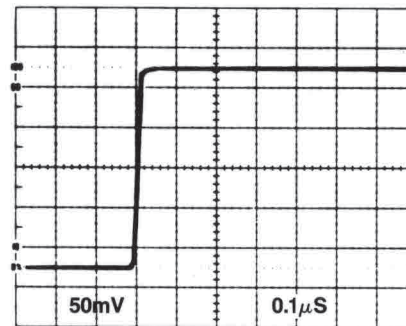
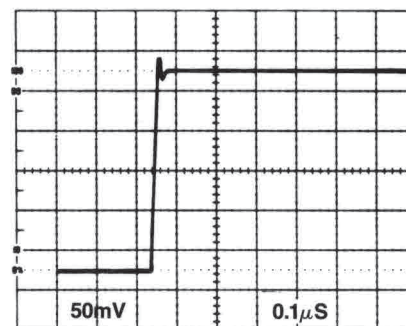

Figure 1-16A
Figure 1-16B
**Probe Ground Lead Effects.** The effect of inappropriate grounding methods can be demonstrated several ways. Figs. 1-16A, B and C show the effect of a 12-inch ground lead when used on various bandwidth scopes.
In Figure 1-16A, the display on the 15MHz scope looks OK because the ringing aberrations are beyond the passband of the instrument and are greatly attenuated. Figs. 1-16B and C show what the same signal looks like on 50MHz and 100MHz scopes.